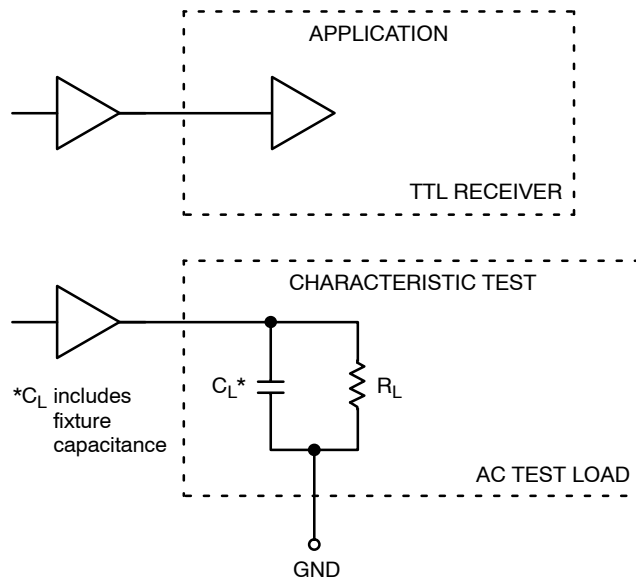

Figure 3. TTL Output Loading Used for Device Evaluation
1. Measured with a 750 mV 50% duty-cycle clock source.  $R_L = 500\ \Omega$  to GND and  $C_L = 20\text{ pF}$  to GND. Refer to Figure 3.